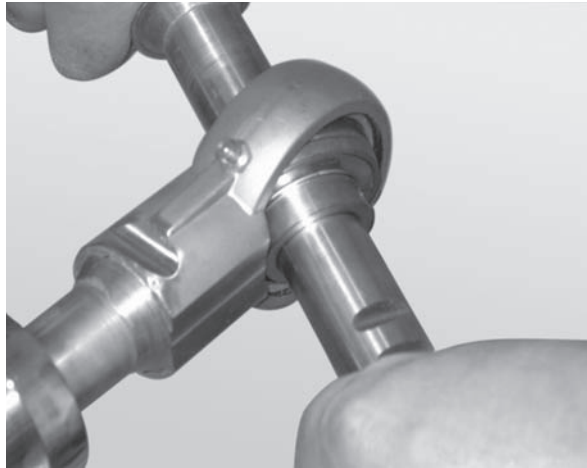

Figure 80
2. Insert the rod end of a second bearing shaft through the bearing (Figure 80).